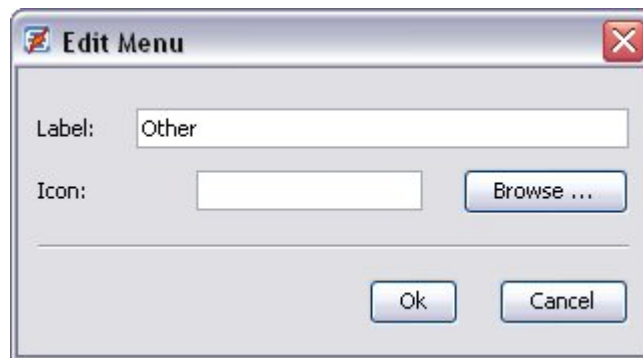

Figure 90 : Edit menu
3. Click on the **Edit Menu** button, the following dialog box then appears (Figure 90):